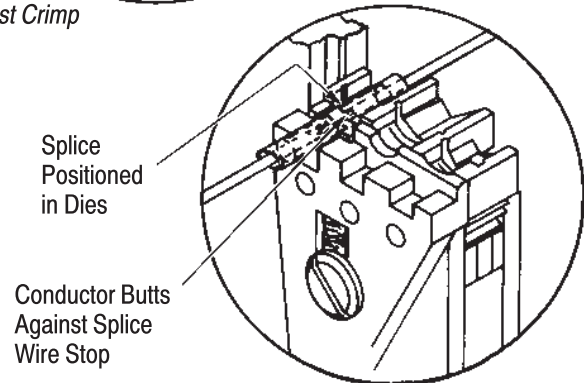

Figure 3
2. Place terminal (or splice) in dies as shown in Figure 2 or Figure 3.
4. Insert properly stripped wire into terminal (or splice) wire barrel "B" as shown in Figure 2 or Figure 3.
6. To crimp other half of splice, remove it and reposition uncrimped half in dies as shown in Figure 3. Follow same procedure used to crimp first half of splice. (If splice cannot be turned, turn tool around.)